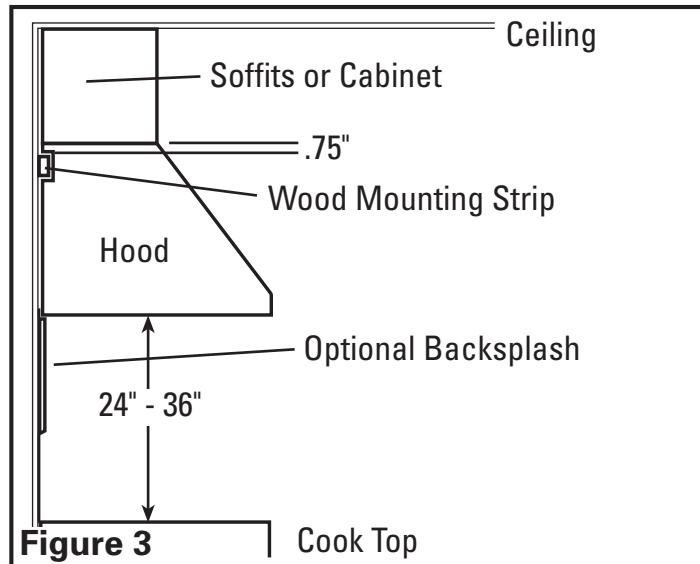

Figure 3
1. The measurements for the installation will be custom to your specific location and will be dependent upon exact ceiling height, distance mounted from cooking surface, cabinet or soffit heights, along with other factors and will need to be adjusted accordingly. The hood must be mounted a minimum of 24" and a maximum of 36" from the cooking surface. (**Figure 3**).